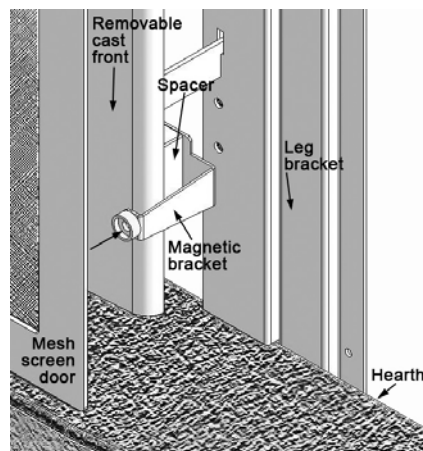

Fig 16, Magnetic bracket location for Contemporary stone mantel (1 spacer)
- use one spacer with the magnetic bracket when securing to the removable cast frame (fig 16).